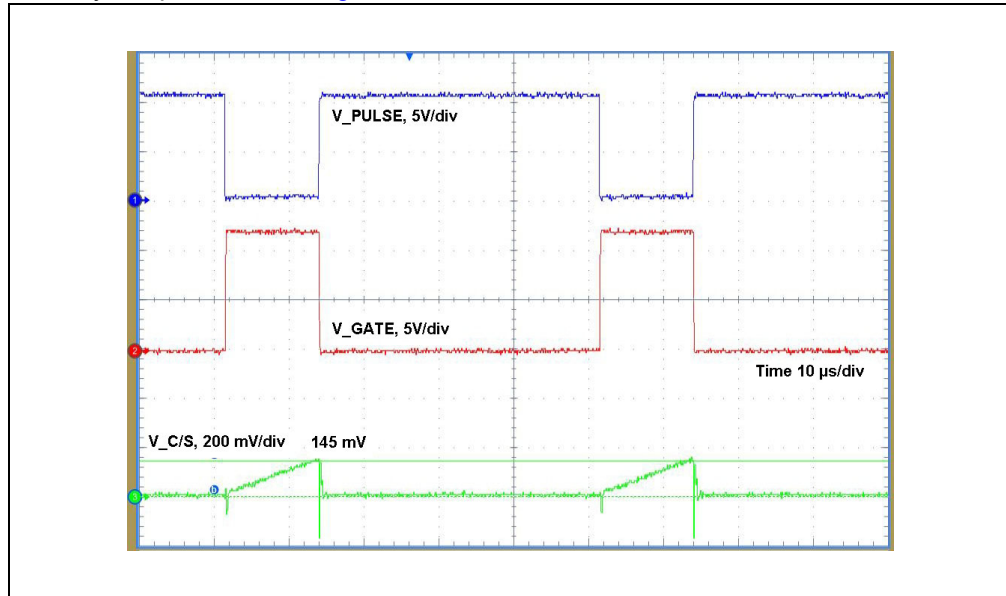

FIGURE 6-1: V_PULSE, V_GATE and V_CS when COMP1 Reference Is Not Reached.
8. Check on the oscilloscope screen the signals V_PULSE, V_GATE and V_C/S as they are presented in Figure 6-1